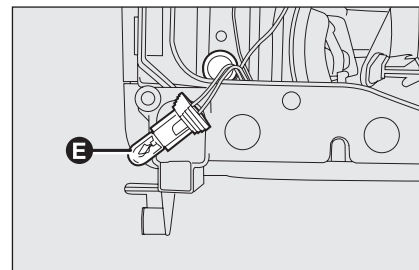

fig. 23
- remove the burnt bulb **E-fig. 23** and fit the new bulb;